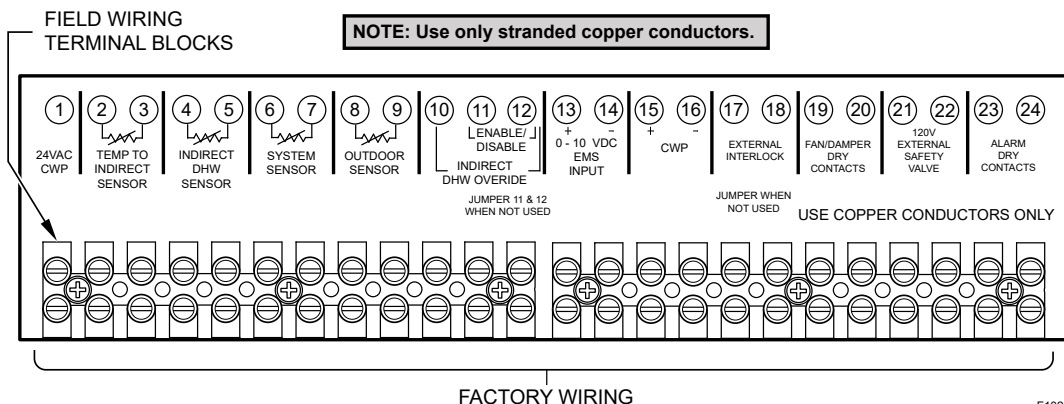

Figure 31. Low-Voltage Field Wiring
- To enable this remote control function, set DIP switch 5 to the UP position on the PIM. DIP switch 5 Toggles between an EMS (UP) signal or a demand signal from the VERSA (DOWN). DIP switch 2 on the PIM toggles between a Direct Drive (UP) input and a Target Temperature (DOWN) setpoint.
- Connect an Energy Management system or other auxiliary control signal to the terminals marked 0-10V (+/-) on the field wiring terminals. See **Figure 31**. Caution should be used to ensure that the +0-10V connection does not create a short to ground.
Connect the Enable/Disable (terminals 11, 12) wiring to the field wiring terminals as shown in **Figure 31** and in place of the factory-installed jumper. Alternately, any dry contact closure (including a remote thermostat) across these terminals will enable the heater to run.
- When using a System Sensor (S3), connect the sensor wires to the terminals marked (6, 7) SYSTEM SENSOR. See **Figure 31**.
1. If using an Outdoor Sensor, connect the sensor wires to the terminals (8 and 9) marked OUTDOOR SENSOR. See **Figure 31**.
Connect the indirect tank sensor to the terminals (4 and 5) marked INDIRECT DHW SENSOR. See **Figure 31**. Caution should be used to ensure neither of these terminals becomes connected to ground. When using an indirect DHW Sensor to control tank temperature, contact closure is required across the indirect override connections for proper operation.
2. Connect the system supply sensor to terminals 6 and 7 on the field wiring strip located on the Master heater. See **Figure 31**.
3. Connect the Outdoor sensor (if used) to terminals 8 and 9 on the field wiring strip located on the Master heater. See **Figure 31**.
4. Connect the Enable/Disable wiring to terminals 11 and 12 on the field wiring strip located on the Master heater. This connection must be provided through dry contacts closure. See **Figure 31**. Applying 24VAC to these terminals will result in blowing the fuse on PIM.
The alarm contacts are 3A rated dry contacts on a normally-open relay that close during fault or lockout conditions, and the maximum voltage across the contacts is 30 VAC or 30 VDC. See the Field Wiring as shown in **Figure 31**.